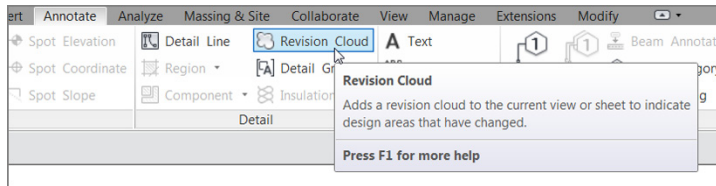

FIGURE 14.17: The Revision Cloud button on the Annotate tab
2. On the Annotate tab, click the Revision Cloud button, as shown in Figure 14.17. You're now in Sketch Mode.